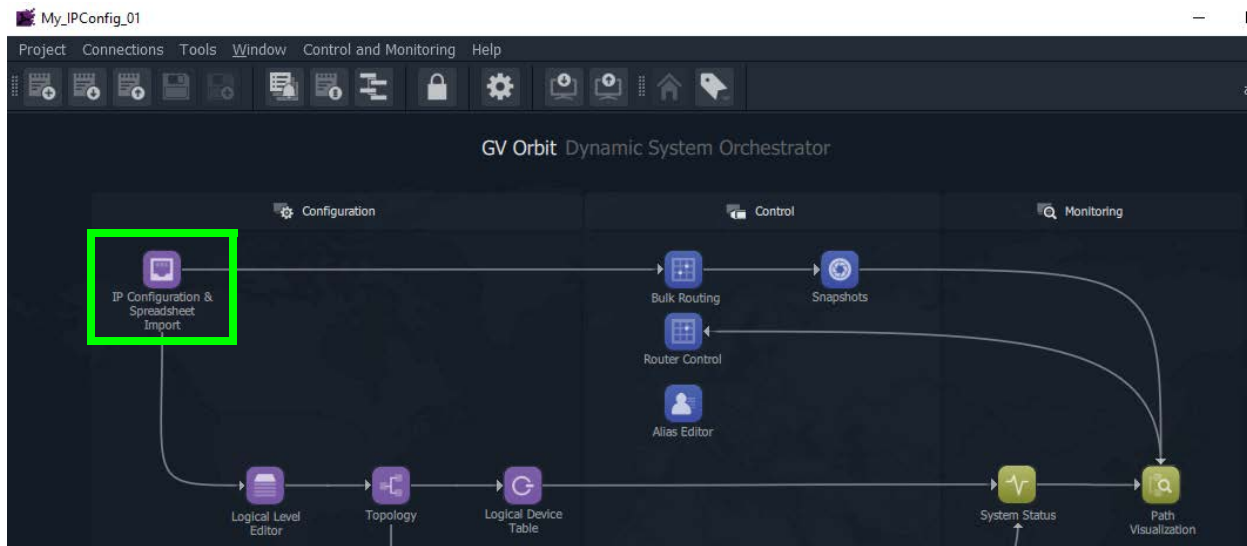

Fig. 19-5: IP Configuration and Spreadsheet Import Icon in the Routing Workflow Screen
- 2 Click on the 'IP Configuration and Spreadsheet Import' icon. See Figure 19-5.